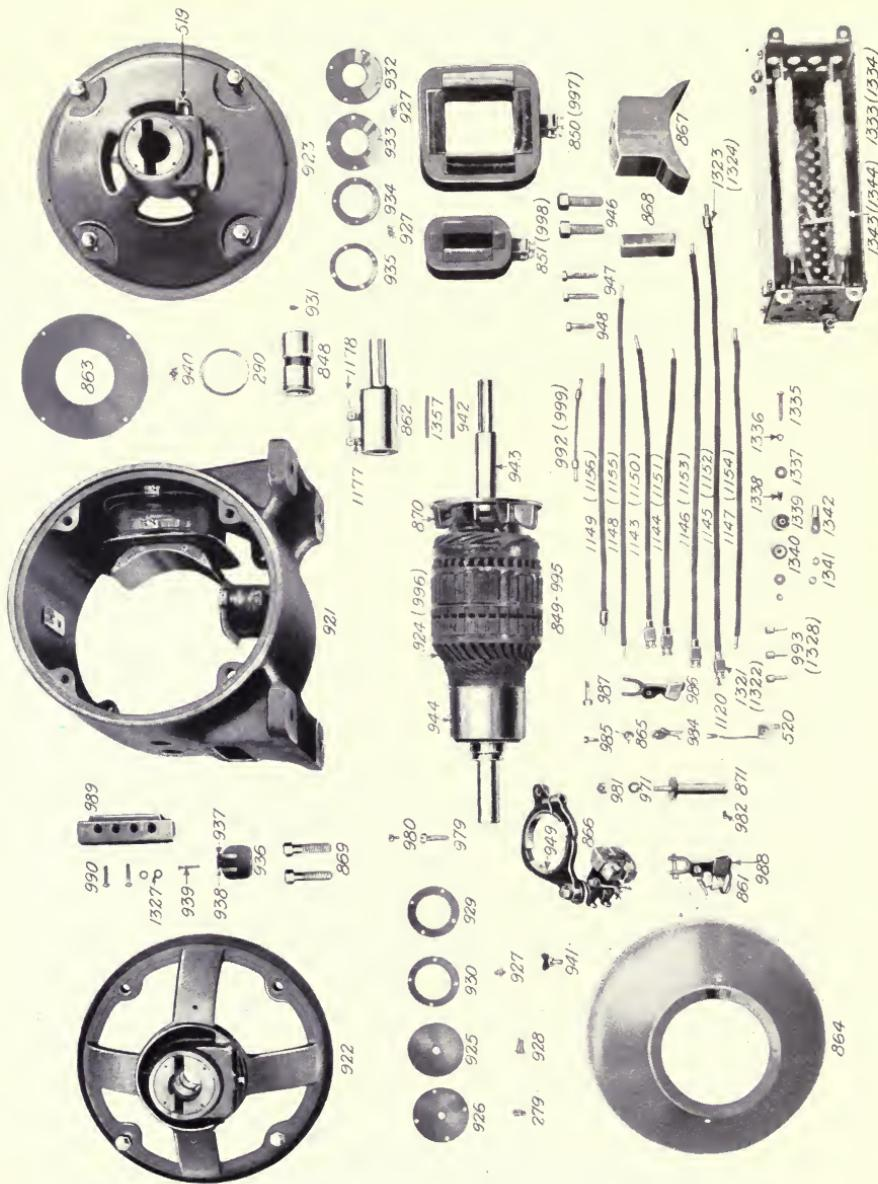

Fig. 40.
**47e. Radiator motor, type CVC-112, and fan resistance. (See Fig. 40.)**